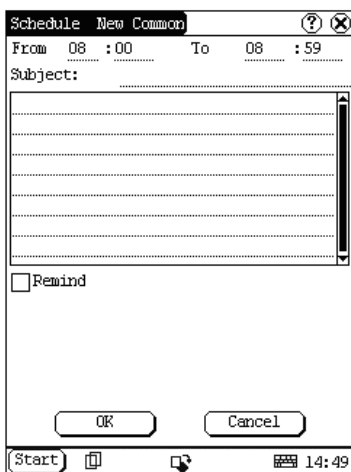

Fig 4-27
- 3) If the selected cycle is 'Daily', 'Weekly', 'Monthly' or 'Annual', you can input the repeat time in the textbox on the bottom of the interface. See Fig 4-27.